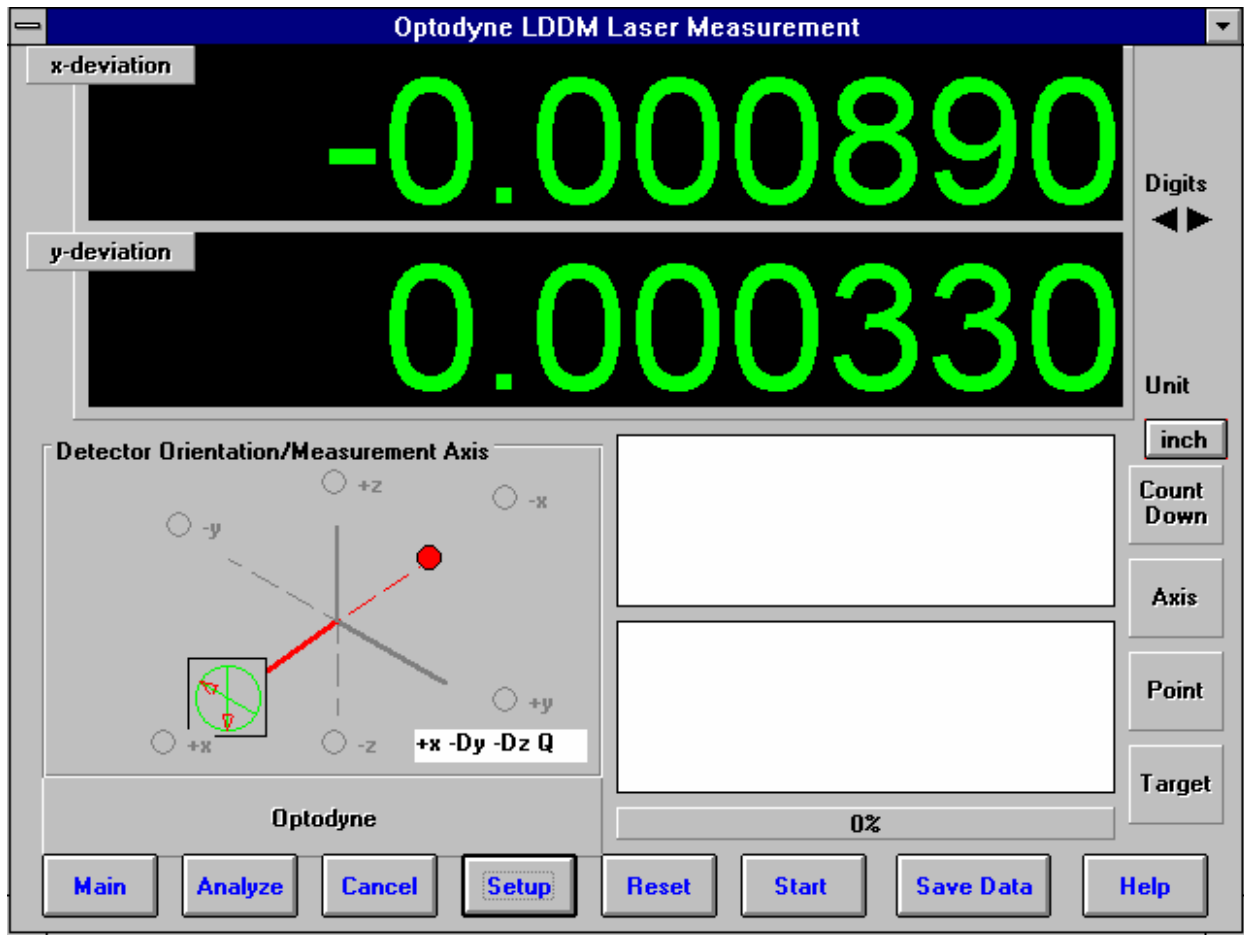

Fig. 7-1 Squareness Main display
7.1 Squareness Measurement Main Display (Fig. 7-1)
Squareness Measurement Main Display (Fig. 7-1)